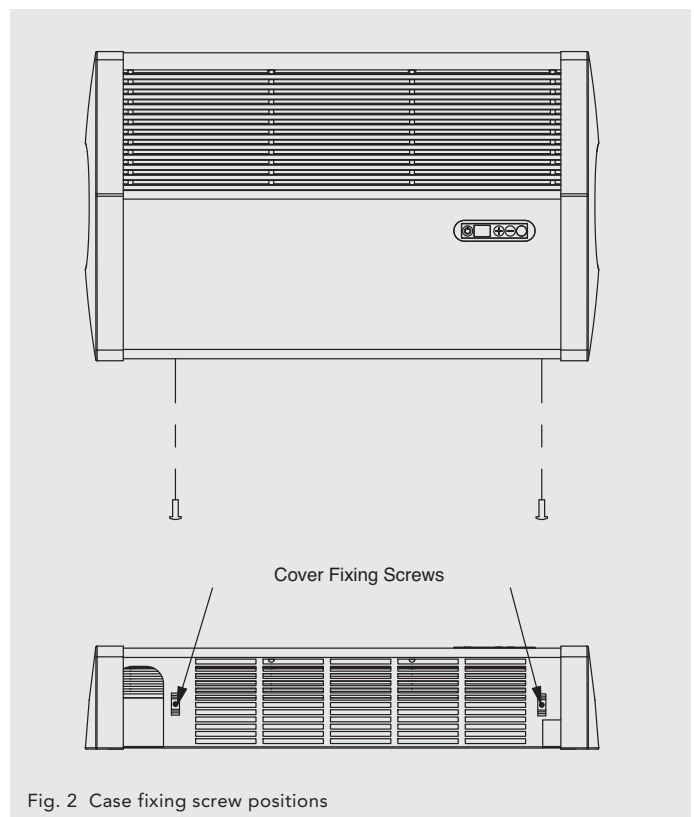

Fig. 2 Case fixing screw positions
- Remove the 2 screws from the underside of the unit (see fig. 2).